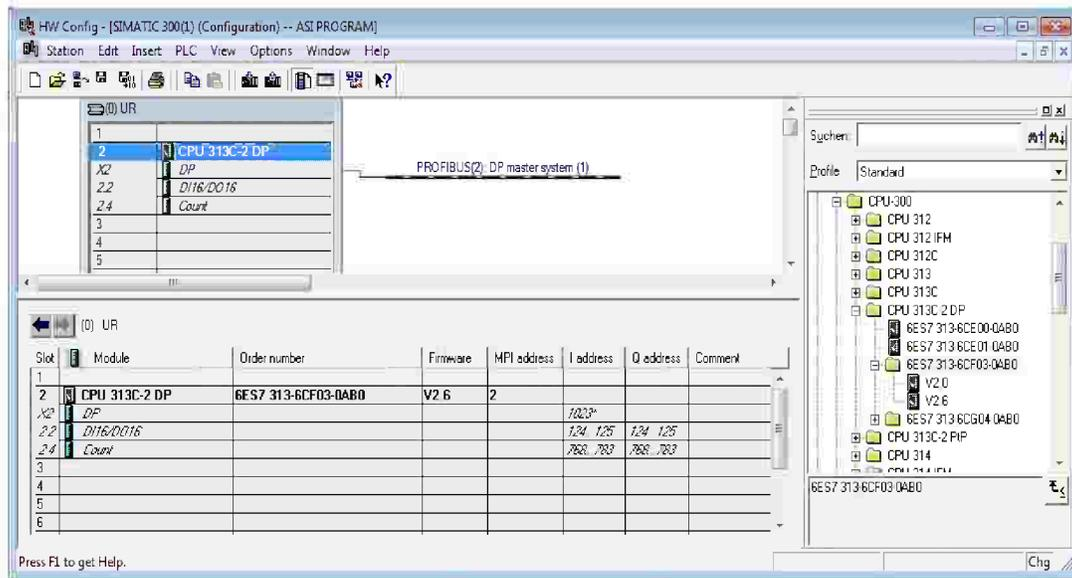

Figure 5-22 CPU as a DP master in the network
- 4) Acknowledge the settings with "O.K.". The following symbol appears:  for the DP master system. This symbol is used as a "hanger" for the DP slaves. By these steps the CPU is configured as a DP master in the network as shown in Figure 5-22.